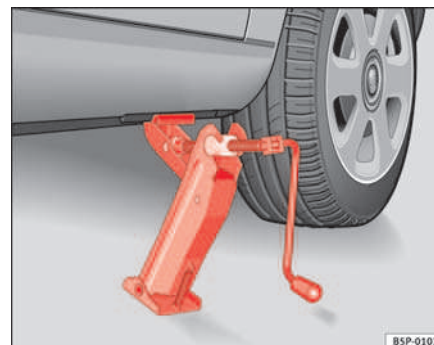

Fig. 168 Fitting the jack
- Align the jack so that the arm of the jack fits around the rib under the door sill and the movable base plate of the jack is flat on the ground ⇒ **fig. 168**.